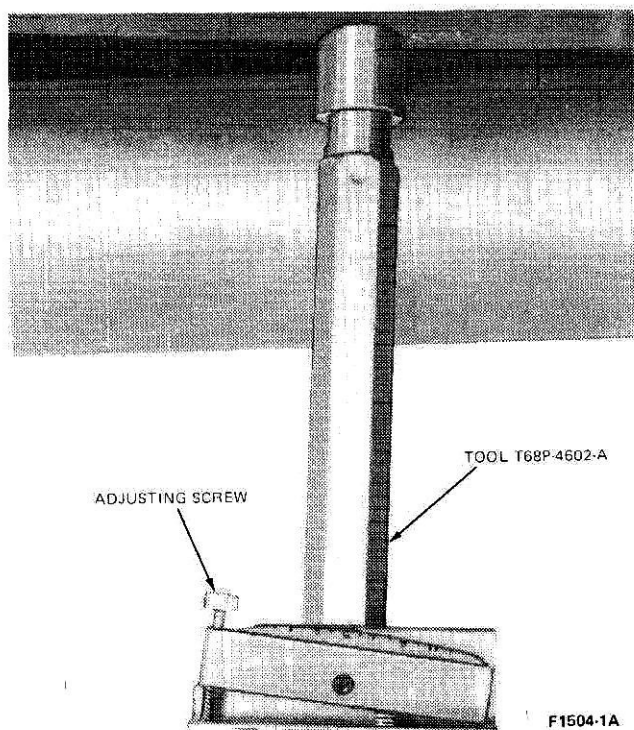
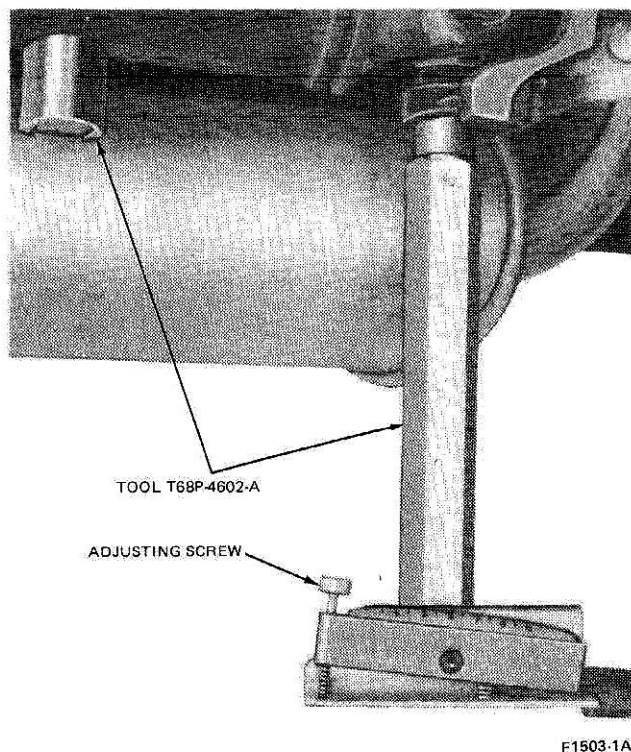

FIG. 4 Positioning Tool on Vee-Magnet
FIG. 5 Measuring Pinion Angle
2. From the left side of the vehicle, position the magnetized Tool T68P-4602-A on the vee-magnet with the adjusting screw to the left (Fig. 4). Adjust the dial on the tool with the adjusting screw until the left-hand edge of the bubble is exactly on the zero line.
3. Now, position the magnetized tool on a U-joint bearing cap as shown in Figure 5, with the tool in the same relative position as it was on the Vee-magnet (Fig. 4).
1. Position the vee-magnet (part of tool T68P-4602-A) on the driveshaft away from welds and balance weights (Fig. 4).
2. From the left side of the vehicle, position the magnetized tool T68P-4602-A on the vee-magnet with the adjusting screw to the left (Fig. 4). Adjust the dial on the tool until the left hand edge of the bubble is exactly on the zero line.
3. Position the magnetized tool on a "U" joint bearing cap as shown in (Fig. 5) with the tool in the same relative position as it was on the vee-magnet.